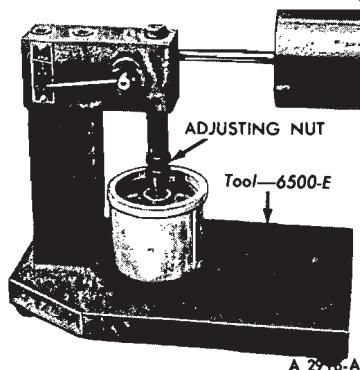

FIG. 8—Adjusting the Ram Length
4. Adjust the length of the ram (Fig. 8) so that the pointer is 1/16 inch below the starting mark when the ram contacts the valve lifter plunger, to facilitate timing as the pointer passes the Start Timing mark.